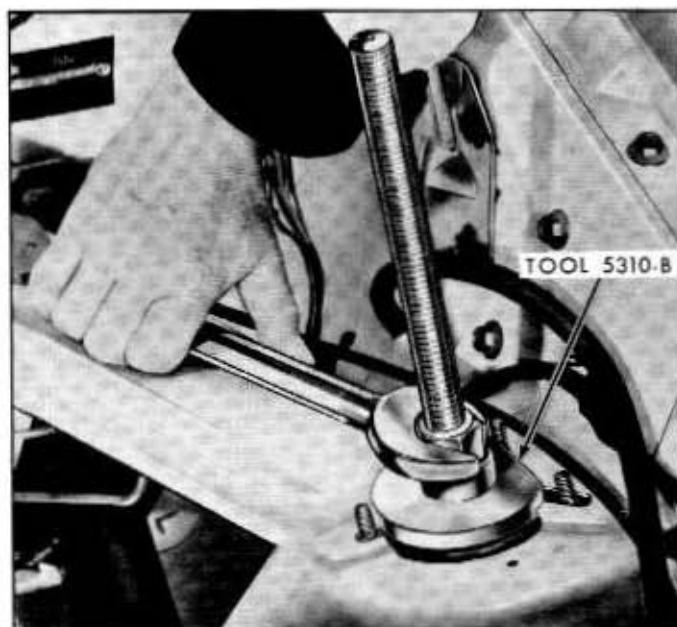

Fig. 3-15—Compressing or Releasing the Spring—In the Vehicle (60C-415)
4. Loosen the Spring Removal Tool nut until the spring is properly seated, then remove the tool. See figure 3-15.